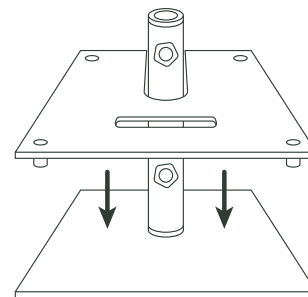

FIG. 7
3. Carefully lower the additional weight plate on top of the base plate with the rubber bumpers facing down. (Fig. 7)